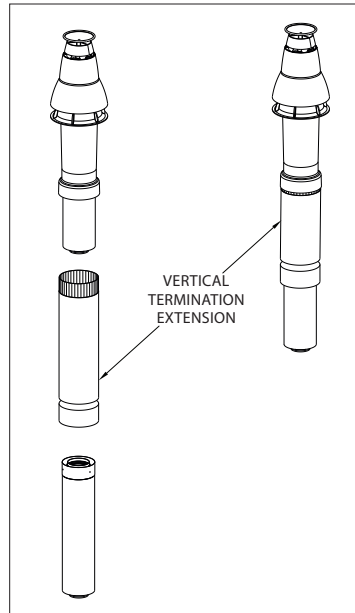

Figure 28
4. Insert the Vertical Termination or next section of vent through the Flashing and attach to the already installed venting. If you need a taller termination due to clearances or snowfall, use a Vertical Termination Extension, **Fig.28**. Note: The Vertical Termination Extension increase the termination height by 36", you will need to account for this 36" excess when calculating how much PolyPro Concentric pipe you will need for your install.